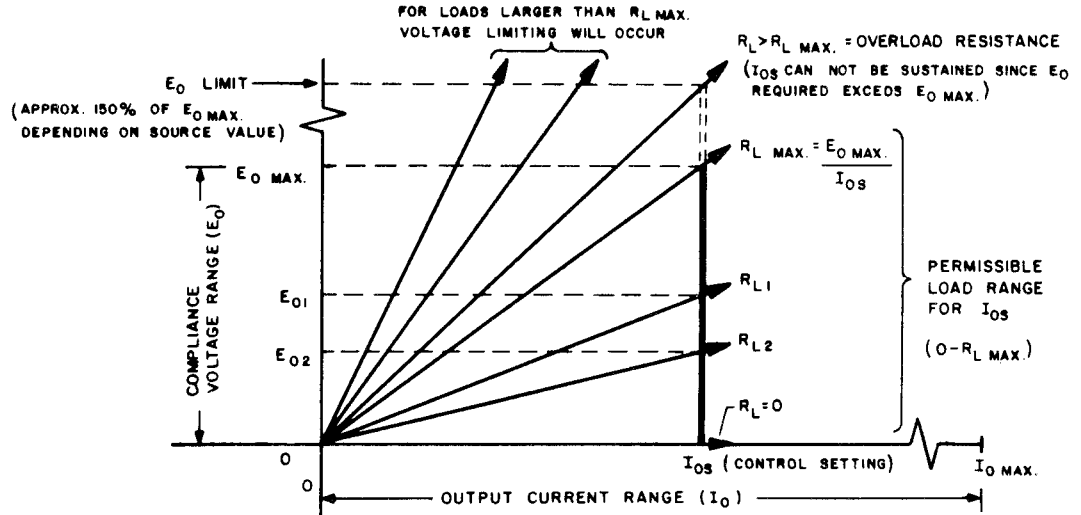

FIG. 3-1 LOAD RANGE FOR CURRENT STABILIZER
- 3-4 By means of the equation above (Eq. 1) one can quickly determine whether a specific CC model is suitable for delivering stabilized output current to a given load when the load requirements are defined. If the load resistance **exceeds** the value derived from the equation (Eq. 1), loss of stabilization results, since the CC Current Stabilizer can, under the conditions given by Eq. 1, no longer supply the necessary (higher) compliance voltage. For any load resistance **lower** than that derived from Eq. 1, the CC Current Stabilizer will adjust its compliance voltage to the appropriate value, while keeping the output current stabilized. The load range for any given output current (I_{OS} , set by the current control) is, therefore, from zero to $R_{L \text{ max.}}$, where " $R_{L \text{ max.}}$ " is derived from Eq. 1. An illustration of the above discussion is provided by FIG 3-1, while the output ratings of *all* CC models are listed in Table 3-1.